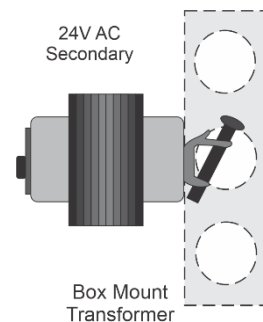

Fig. 1.43: Box Mount Transformer
**Box Mount Transformer:** This type of transformer is designed to be mounted on an 110 VAC supply electrical junction box (“J” box should be mounted inside chase wall or above ceiling). (Refer Fig. 1.43)